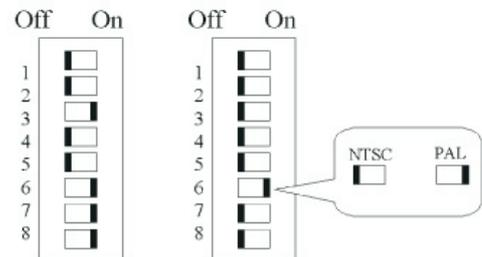

Figure 3-72 Video Converter Dip Switch Positions
5.) If not already done, set the switches to the correct positions, as shown in Figure 3-72 below.
- 5.) Set the switches to the correct positions, as shown in Figure 3-72 on page 3-57.